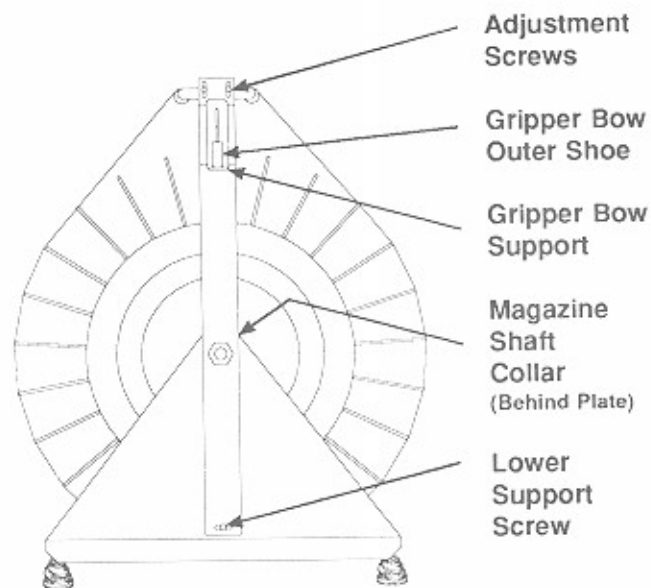

Figure 6-10. Magazine Belt Adjustment
See *figure 6-10* for this adjustment.
1. Loosen the two adjustment screws shown in *figure 6-10*.